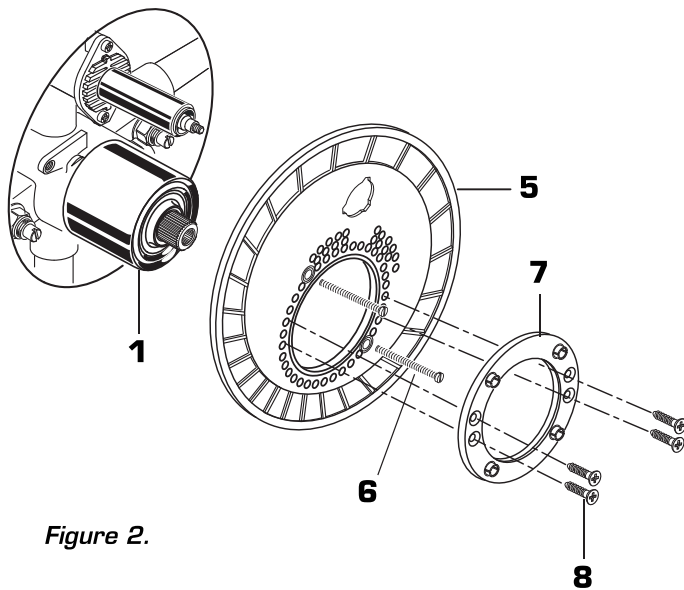

Figure 2.
- **Figure 2.** Push ESCUTCHEON HOLDER (5) onto CAP (1) and attach with SCREWS (6). Mount ESCUTCHEON SUPPORT (7) to ESCUTCHEON HOLDER (5) with SCREWS (8).